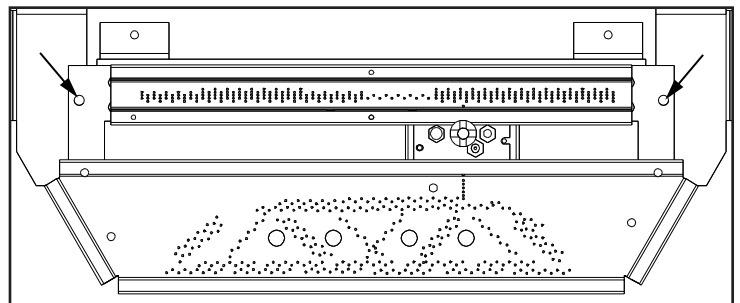

Figure 7: Screws holding Burner.
2. Remove the two (2) T-20 screws that hold the burner in place; one (1) at each of the rear burner (see Figure 7).
4. Remove the four (4) $\frac{5}{16}$ " bolts that hold the blower mounting plate to the back firewall. Use a light lubricating oil on screws before removal.
5. Carefully pull the blower assembly into the firebox (see Figure 7) disconnect the blower leads from the harness and remove blower.